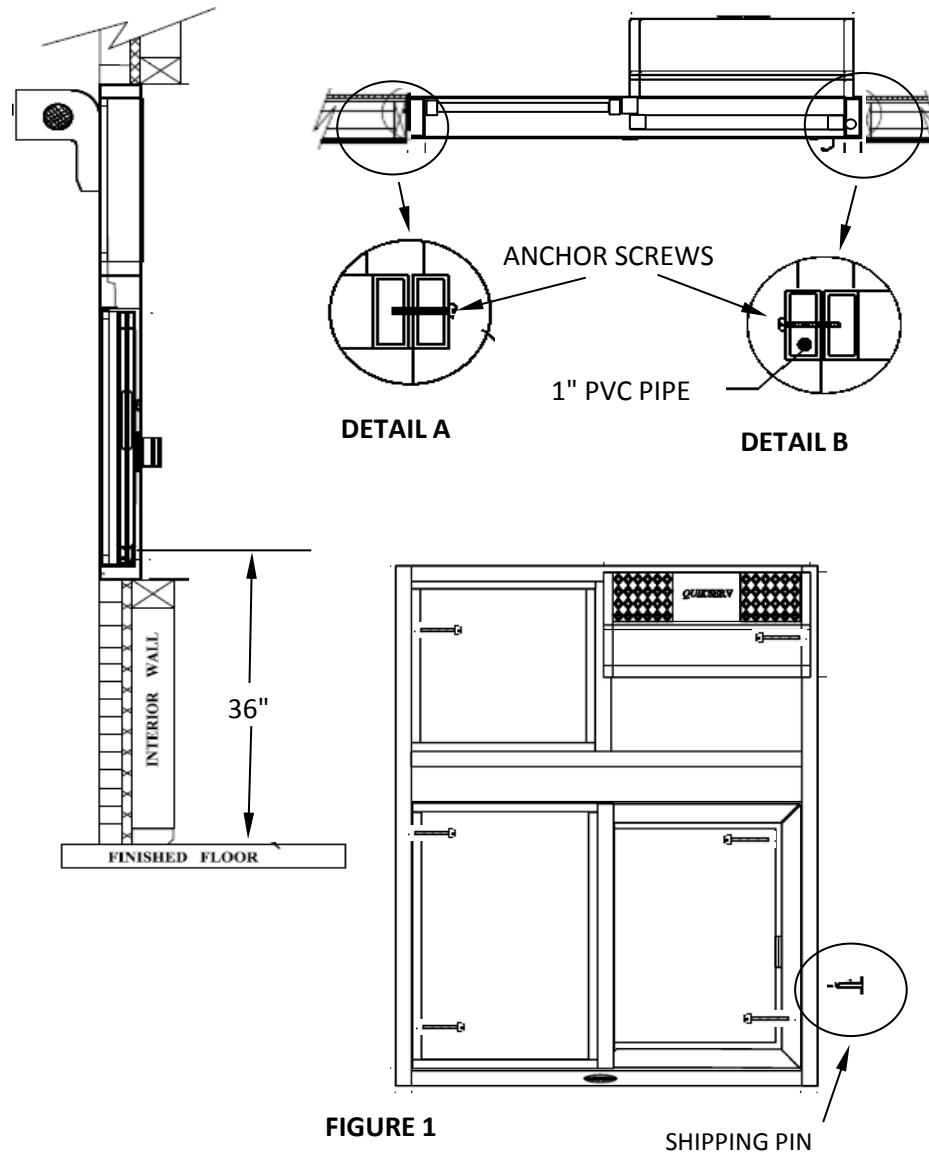

FIGURE 1
- 2) Anchor through each side jamb at three places approx. 5" at top and bottom as well as the middle of each jamb. (See Figure 1)
Remove shipping pin before installing the window. The shipping pin is located in the side jamb. (See Figure 1)